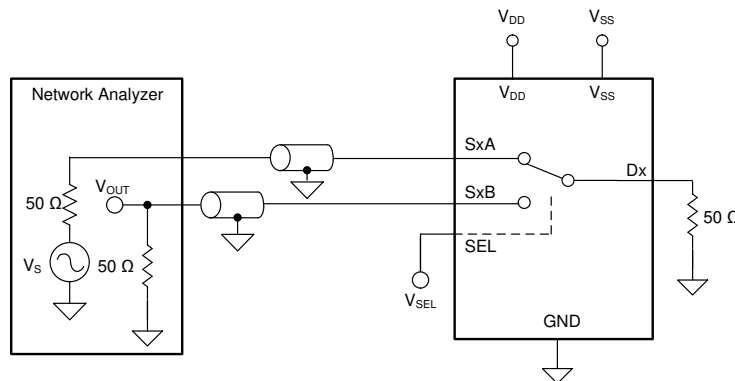

图 7-8. Intra-Channel Crosstalk Measurement Setup
1. Intra-channel crosstalk: the voltage at the source pin (S_x) of an off-switch input, when a 1-VRMS signal is applied at the source pin of an on-switch input in the same channel, as shown in 图 7-8.